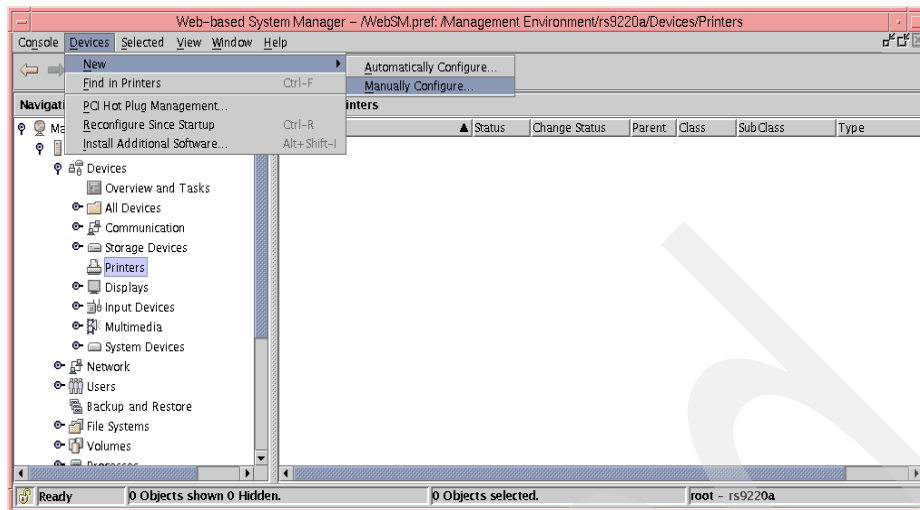

Figure 3. Manually configuring a device
4. From the Device task-bar pull-down, select **New -> Manually Configure**, as shown in Figure 3 on page 59. (You cannot use **Automatically Configure** for printer devices since they are not software-detectable.)